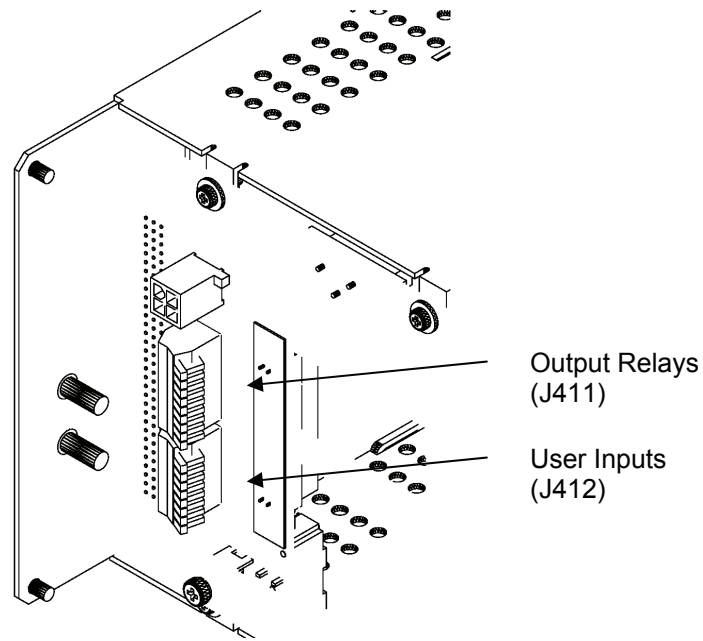

Figure 2.9-1 Interface Connections
There are three output relays available that provide outputs via Form “C” contacts. The output relays are named Minor, Major and Out Relay 1. Various system alarm conditions can be assigned to any of these three output relays. Most alarm conditions are shipped programmed to Minor or Major Relay. Wago connectors are located on the backplane card mounted in the left rear of the unit. Refer to the board layout in Figure 2.9-1 for Output Relay connections. The Wago connectors accept wires 26 AWG to 20 AWG (0.129 mm² to 0.518 mm²). To connect the relay output, remove ¼ in (6 mm) of insulation from the end of the wire. Push down the white tab on the Wago connector, insert the stripped wire and release the tab to make the connection. The relay contacts should only be used to switch resistive loads of 0.5 A or less at 60 V or less. Figure 2.9-2 shows the alarm output connection designations. Whenever possible use the common and normally closed contacts. If the alarm wiring gets pulled loose, or the controller is removed, you will get an alarm. The Major relay is energized (C-NO contacts closed) during normal (non-alarm) operating conditions; the other relays energize when an alarm condition occurs. If your Major relay wiring uses the C-NO contacts, then a major relay output will be seen whenever the controller is removed from the shelf.
Four external alarm inputs with assignable relay outputs are available. User 1 and 2 inputs respond only to external dry contact closures between normally open (NO) and common (C) and User 3 and 4 respond only to external dry contact openings between normally closed (NC) and C. A Wago connector is located on the backplane card mounted in the left rear of the unit. The Wago connectors accept wires 26 AWG to 20 AWG (0.129 mm² to 0.518 mm²). To connect the user input, remove ¼ in (6 mm) of insulation from the end of the wire. Push down the white tab on the Wago connector, insert the stripped wire and release the tab to make the connection. Refer to **Figure 2.9-1** for backplane board connections.